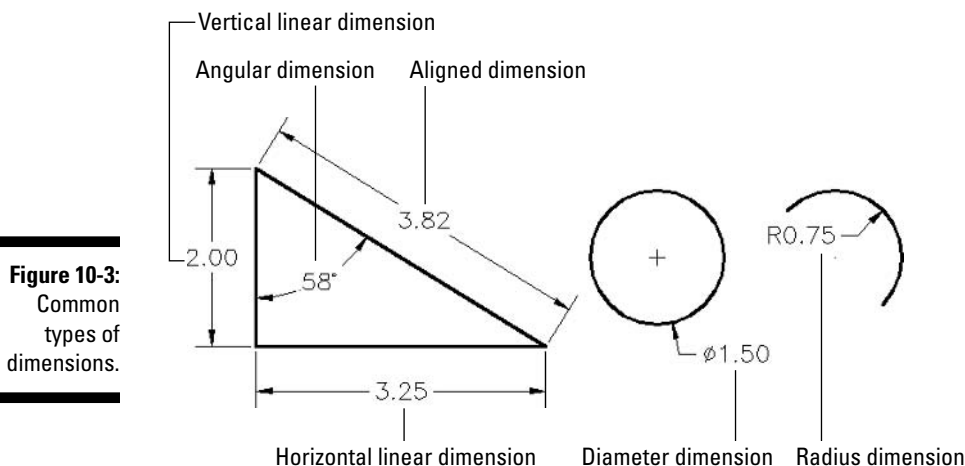

Figure 10-3:
AutoCAD LT provides several types of dimensions and commands for drawing them. Figure 10-3 shows the most common types, and the following list describes them:
- ✓ **Radial dimensions:** A *radius* dimension calls out the radius of a circle or arc, and a *diameter* dimension calls out the diameter of a circle or arc. You can position the dimension text inside or outside the curve, as shown in Figure 10-3. If you position the text outside the curve, AutoCAD LT by default draws a little cross at the center of the circle or arc.